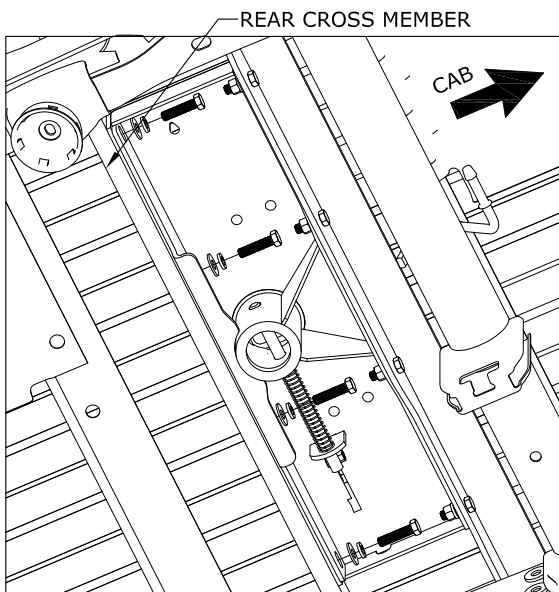

Figure B11: View under the center section looking from in front of the axle on the passenger side.
6. **Attach the rear cross member to the center.** Slide the rear cross member up against the center section. Line up the slots in the center with the threaded holes in the cross member. Attach the two members using  $\frac{1}{2}$  x 2" long bolts, flat washers, and lock washers as shown in Figure B11. Hand tighten bolts.